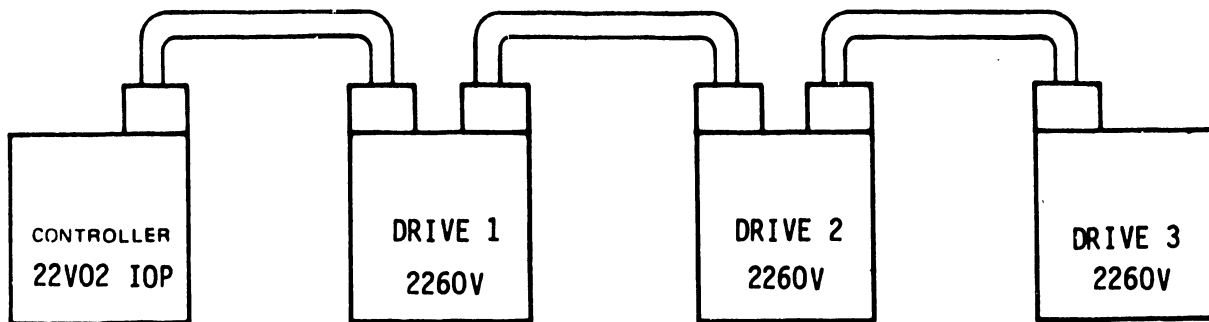

FIGURE 4-69 DAISY CHAIN CONFIGURATION
5. If more than one drive is to be attached to system, use 5 ft. I/O cables to interconnect the disk drives in the configuration shown in Figure 4-69. If this drive is to be the last drive in a daisy chain, use I/O cable PN 220-0187; if not, use PN 220-0170.